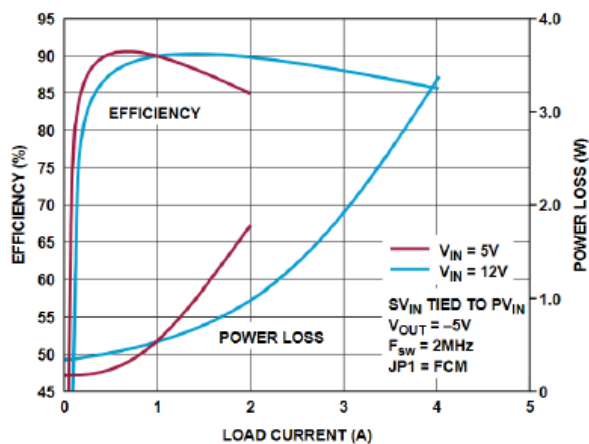
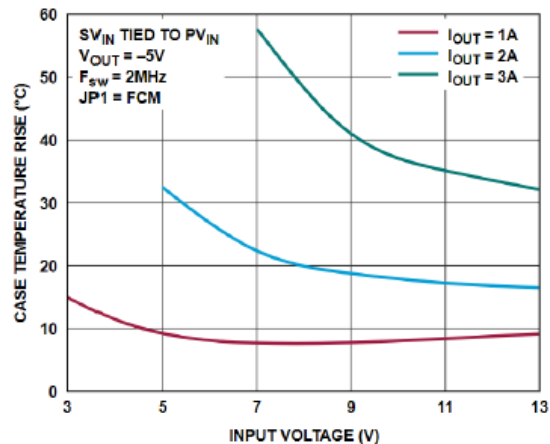
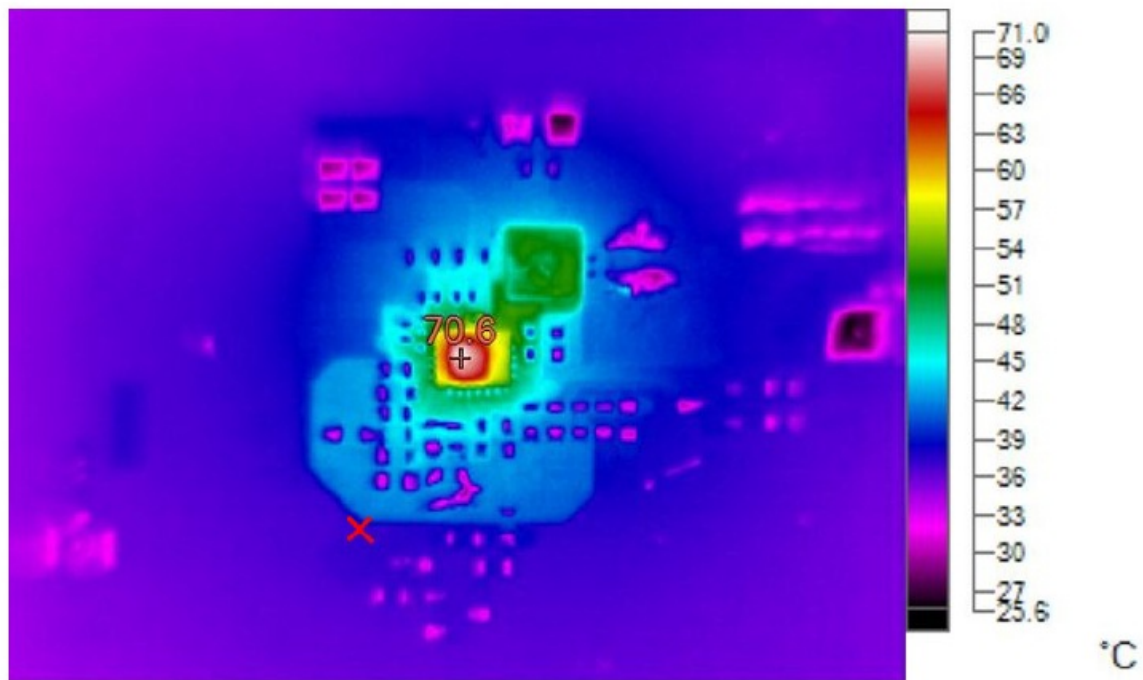

Figure 1. Efficiency vs. Load Current (Input from V_{IN} Terminal)
Figure 2. Case Temperature Rise vs. V_{IN}
Figure 7. Thermal Performance at $V_{IN} = 5V$, SV_{IN} tied to PV_{IN} , $V_{OUT} = -5V$, $I_{OUT} = 2A$, $T_A = 25^\circ C$
- The LT8624S switching frequency can be programmed either through an external resistor RT, or an external clock over a 300kHz to 6MHz range. The default frequency of the EVAL-LT8624S-AZ-IBB demo board is 2MHz. The SYNC pin on the demo board is connected to -VOUT for pulse-skip mode operation. To synchronize to an external clock, move JP1 to SYNC and apply the external clock to the SYNC terminal. Select the forced continuous mode (FCM) by moving the JP1 shunt respectively. Figure 1 shows the efficiency of the circuit at 5V input and 12V input in the FCM operation (input from VIN terminal). Figure 2 shows the LT8624S temperature rising on the EVAL-LT8624S-AZ-IBB demo board under 1A, 2A, and 3A load conditions, for the full input voltage range. The case temperature rise was measured with the following reference points: The peak IC case temperature and a point on the board, marked with a red 'X' as shown in the thermal picture in Figure 7.